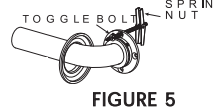

FIGURE 5
- Use the 3/8-inch power drill and 5/8-inch drill bit to drill six (6) holes where marked. **NOTE: If installing Grab Bar over ceramic tiles, the 5/8-inch carbide drill bit will be needed for drilling through tile, in order to prevent damage to tiles. Once a hole has been drilled through the tile, use the 5/8-inch drill bit to drill through the backing support for the tile.**
- Insert one (1) TOGGLE BOLT through any one of the mounting holes on one end of the Grab Bar. Start a spring nut on the end of the TOGGLE BOLT as shown (see Figure 5), screwing it onto the bolt about three turns. Repeat this step for two (2) TOGGLE BOLTS on that same end of the Grab Bar.